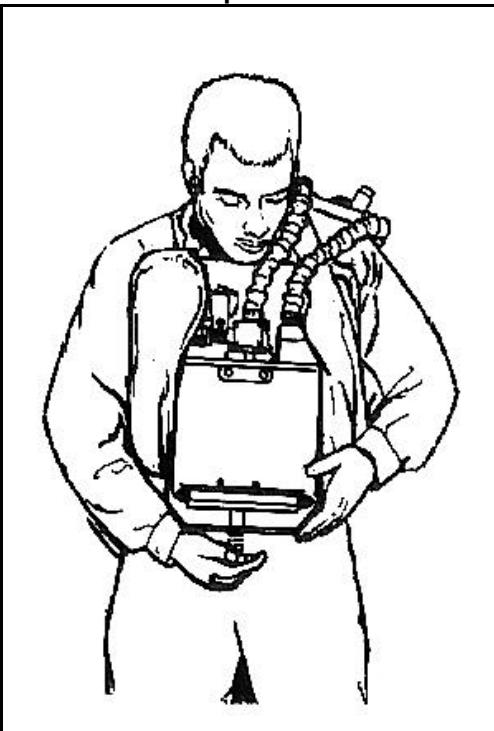

Figure 11-45. Putting on the OBA,
- **Step 7.** Swing the retaining bail down under the canister and tighten the retainer (a heavy screw with a pad and hand-wheel) by turning it clockwise. This secures the canister in the holder and forms a seal between the canister and the central casting. The point of the central casting punctures the copper seal (Figure 11-45, page 11-60).